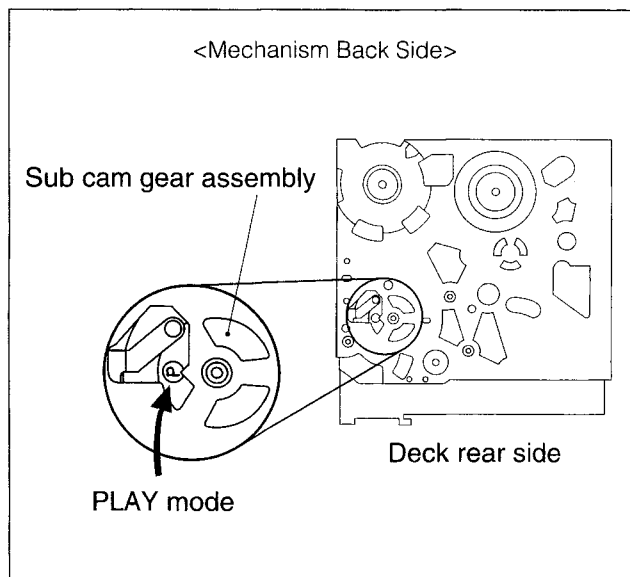

Fig. 2-2-14
- (1) Set the mechanism into the PLAY mode. (See Fig. 2-2-14).